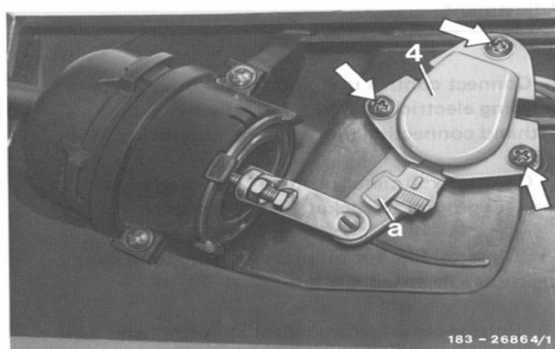

Fig. 1
- D. Set temp wheel at "MIN", using a 5.5mm socket, and long extension and swivel adapter, turn adjustment screw until 4 volts is measured on the voltmeter.(see Fig. 1)(clockwise lowers voltage, counter clockwise increases voltage)